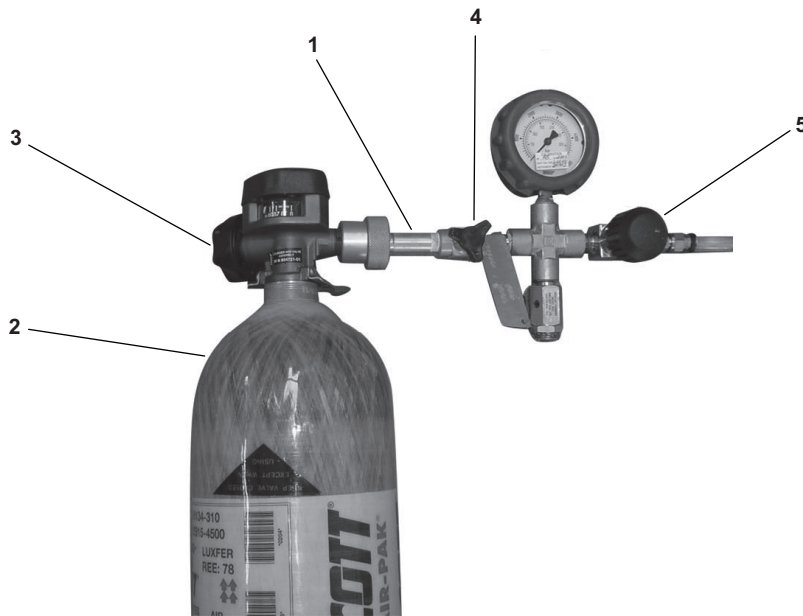

Figure 2-24. Fill Hose Assembly Attached to SCBA Cylinder
- f. Connect the fill hose assembly (figure 2-24, item 1) to the SCBA cylinder (figure 2-24, item 2).
- g. Ensure that the SCBA cylinder shutoff valve (figure 2-24, item 3) is closed (CW) and that the fill hose assembly bleed valve (figure 2-24, item 4) is closed (CW).
- h. Open (CCW) the fill hose shutoff valve (figure 2-24, item 5) fully.
- i. Slowly open (CCW) the fill hose bleed valve (figure 2-24, item 4) until the airflow stops and pressure is vented. Close (CW) the fill hose bleed valve.
- j. Close (CW) the fill hose shutoff valve (figure 2-24, item 5).
- k. Remove the fill hose assembly (figure 2-24, item 1) from the SCBA cylinder (figure 2-24, item 2).